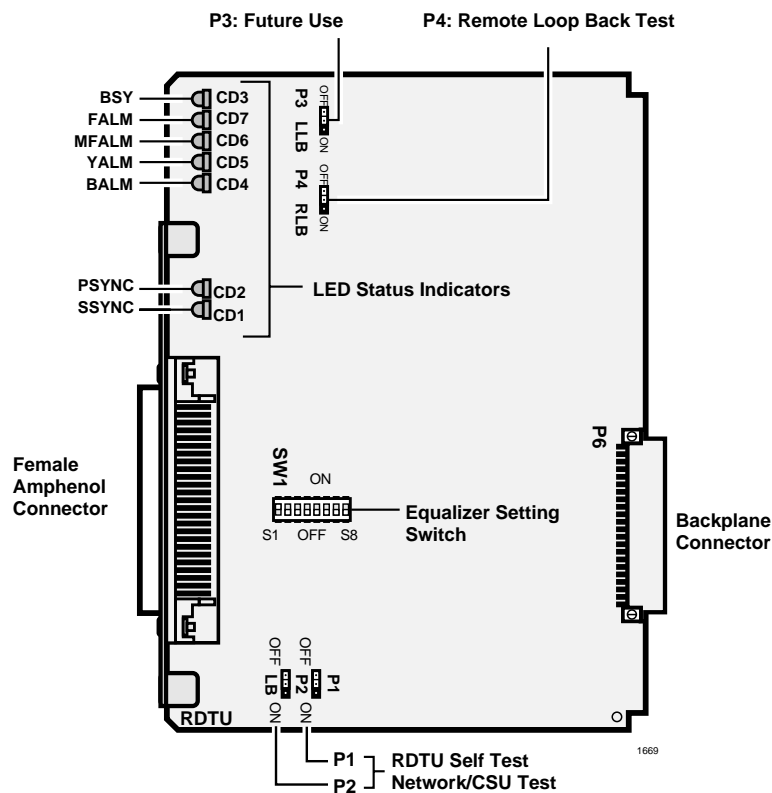

Figure 6-2 RDTU Printed Circuit Board
The RDTU PCB provides seven LED indicators to show the status of RDTU: Busy or Idle condition, Alarm status, and Synchronization status. See Table 6-2 for the function of each status LED. Figure 6-2 shows the LED locations. Busy LED (BSY)—Turns on when one or more RDTU channels (lines) are in use. Also, when the RDTU does not receive the far end 1.544 mbs carrier signal, the RDTU will cause the BSY to be on steady.
- P1 and P2 to ON position (see Figure 6-2).